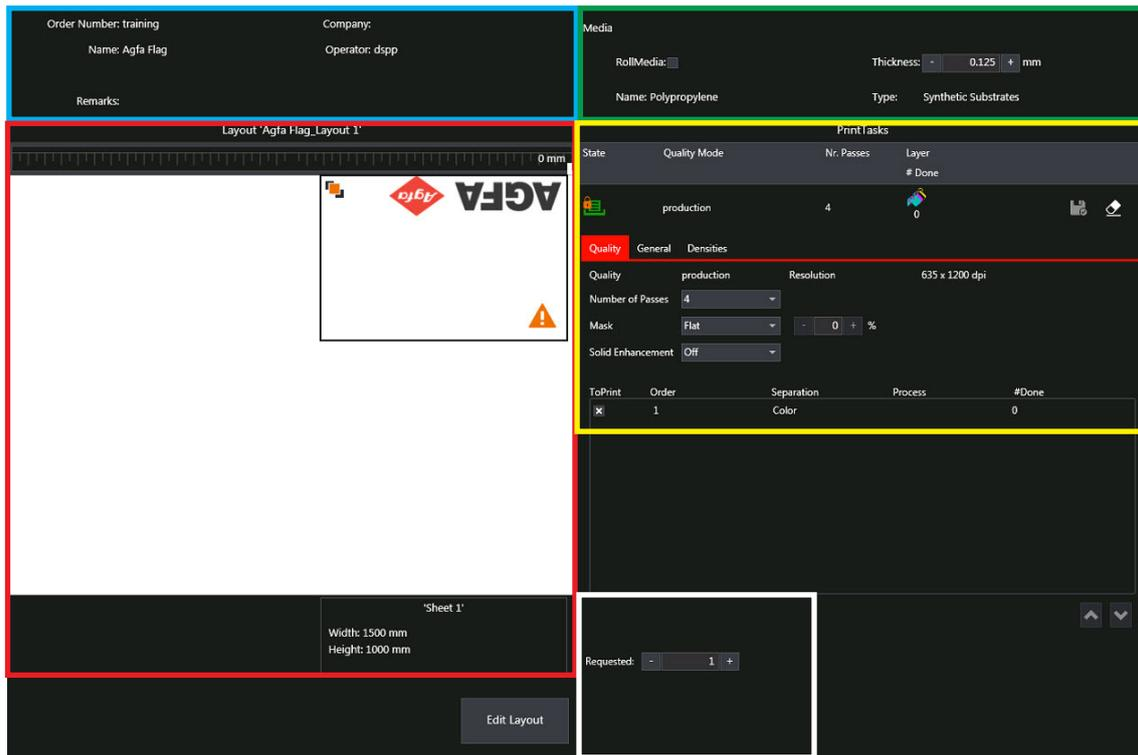

Fig.6-29 Layout Detail Pane
- Order Information Pane (outlined in blue in Fig.6-29).
- Media information pane (outlined in green in Fig.6-29).
- Layout information pane (outlined in red in Fig.6-29).